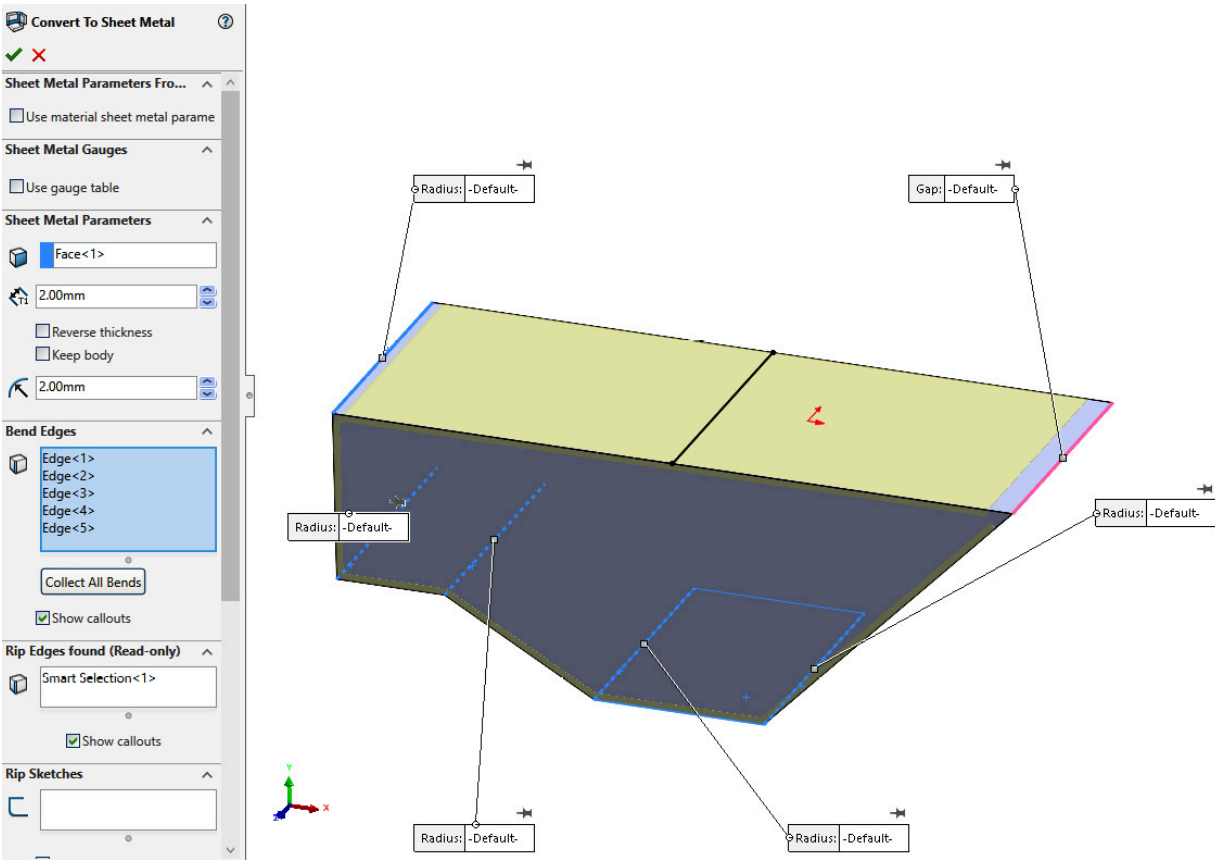

Figure 12.22: Select the Fixed Face and Bend Edges
4. We can now add the **Convert to Sheet Metal** feature as covered earlier in the chapter. Select the **Convert to Sheet Metal** tool, then select the underside face as the **Fixed Face**, then select the **Bend Edges** shown in *Figure 12.22*.